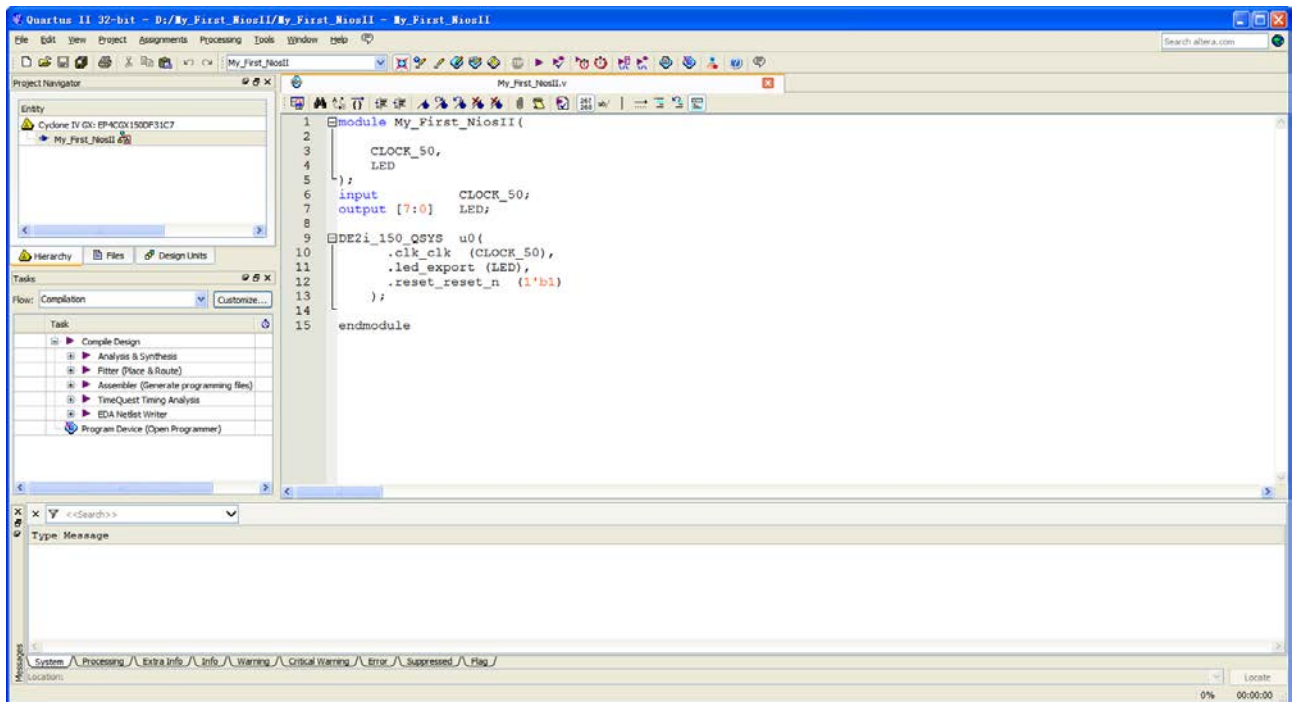
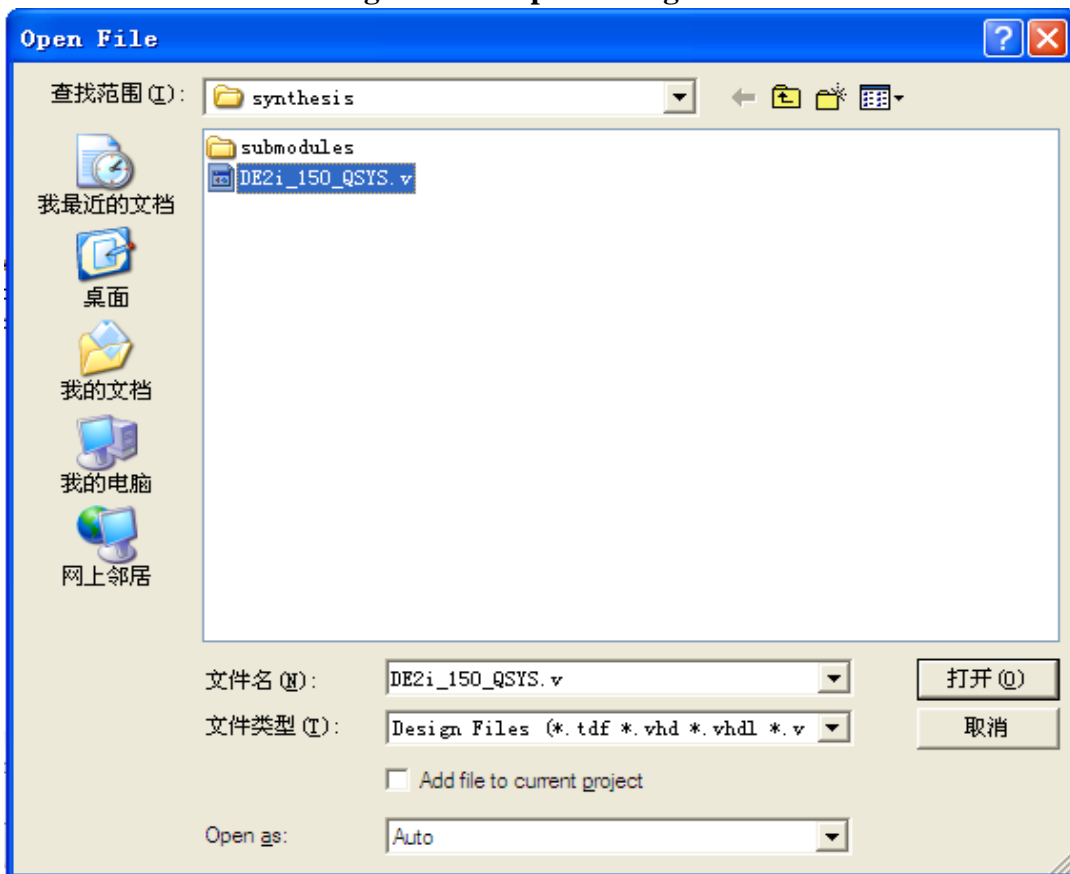

Figure 1-54 Input verilog Text
Figure 1-55 Open DE2\_115\_SOPC.v
34. Type verilog the following script as shown in Figure 1-54. The module **DE2i\_50\_Qsys** of the code is from **DE2\_115\_Qsys.v** of the project. See Figure 1-55 and Figure 1-56.